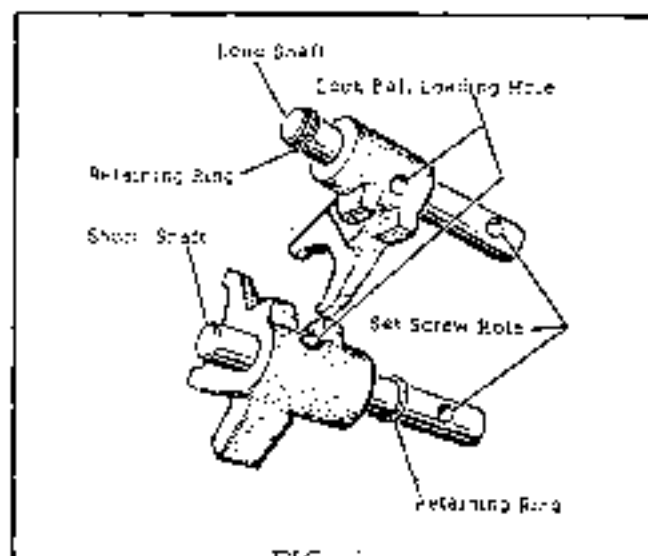

FIG. 1
1. Identify the long shaft, (it has a retaining ring on the end of the shaft farthest from the setscrew hole) and insert the setscrew hole end into the hub of a shift fork. See Fig. 1. Before pushing the shaft through the hub of fork, insert the shift lock spring and ball through the loading hole and depress with a  $3/8$ " rod so that the shaft may slide through.
Identify the short shaft, (it has a retaining ring located near the setscrew hole) and insert the end without the retaining ring into the hub of the shifter fork. Before pushing the shaft through the hub of the fork, insert the shift lock spring and ball through the loading hole and depress with a  $3/8$ " rod so that the shaft may slide through. See Fig. 1.